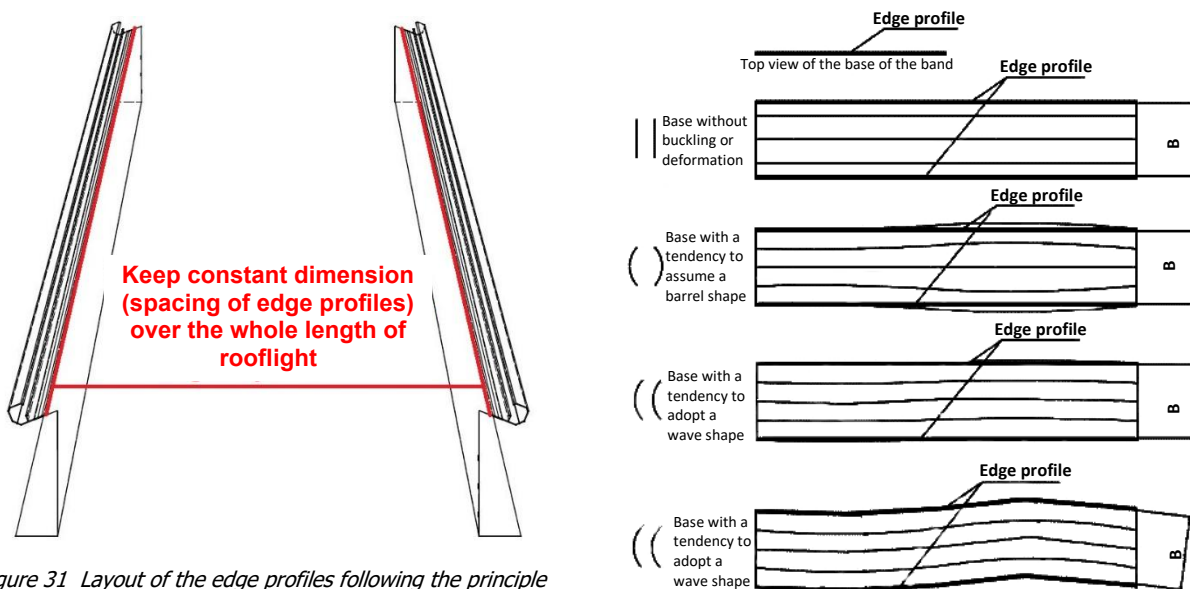
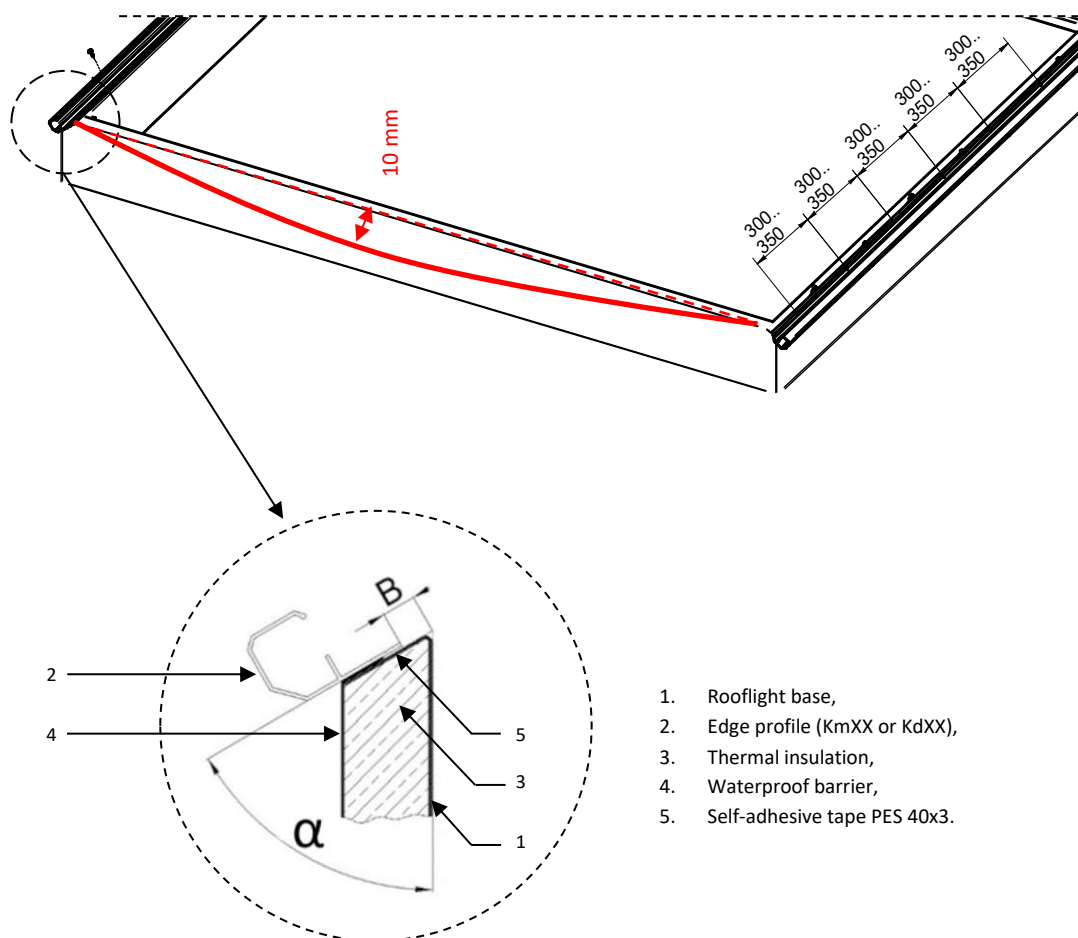

Figure 31 Layout of the edge profiles following the principle of parallel orientation
Figure 32 Installation of edge profiles according to the attachment to the installation manual
- Apply self-adhesive tape PES 40x3 to the assembled and insulated base and then fix the edge profiles using self-drilling screws $\varnothing 6.3 \times 32$ mm keeping the distance between the screws 300–350 mm, and positioning them so that at least 2 screws fall out between the holes for the screws tightening the pressure profiles. The position of the edge profile in relation to the base should be as shown in (Figure 32 Installation of edge profiles according to the attachment to the installation manual). The correct B dimension can be obtained by laying the edge profiles parallel to each other along the entire length. The B dimension can be obtained by fixing the position of the edge profiles with the tympanum panel. It is very important that the edge profiles are arranged parallel to each other i.e. the distance between them is constant (Figure 31 Layout of the edge profiles following the principle of parallel orientation).